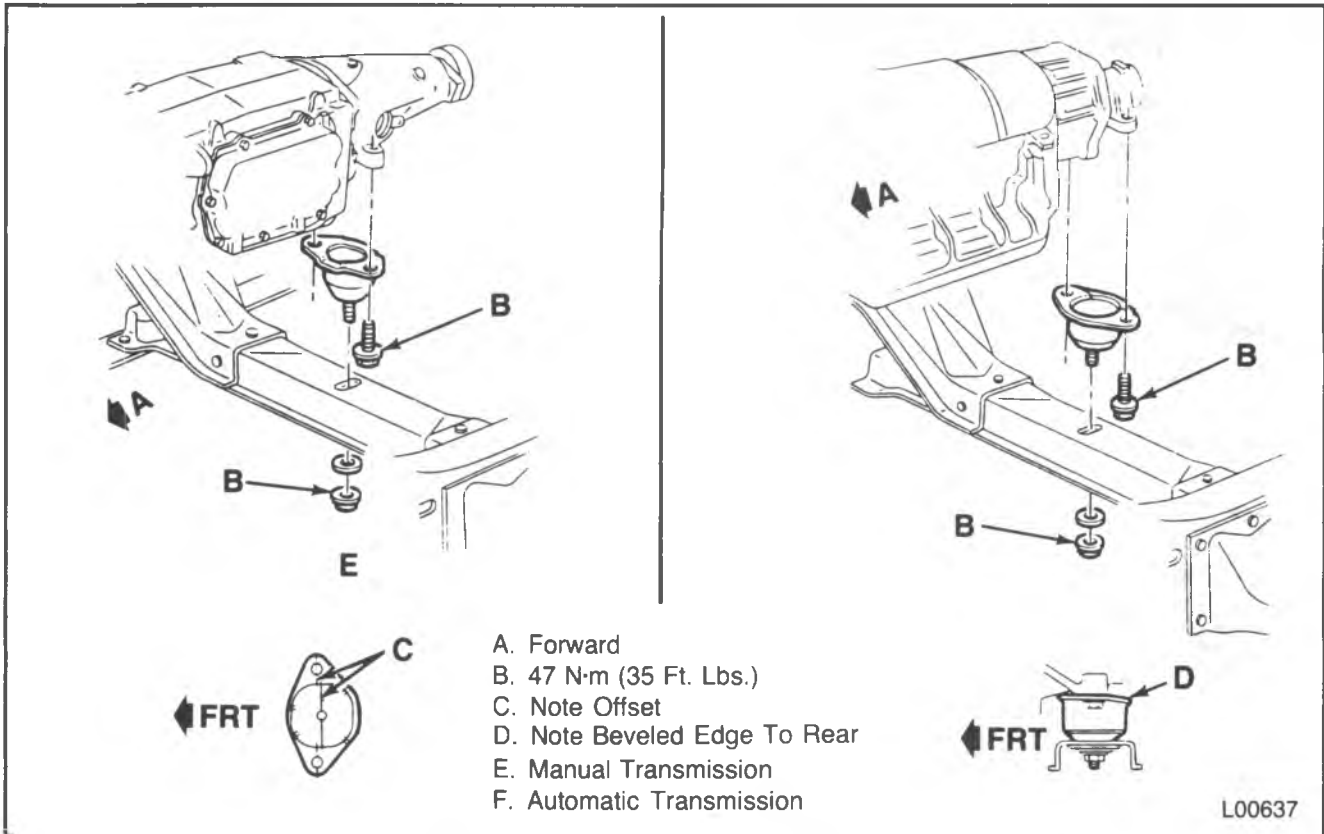

Figure 43 — R-Model Transmission Mounting
Remove or Disconnect (Figures 43 and 45)
Install or Connect (Figures 43 and 45)
- Fasteners to specifications. Refer to figures 43 and 45.